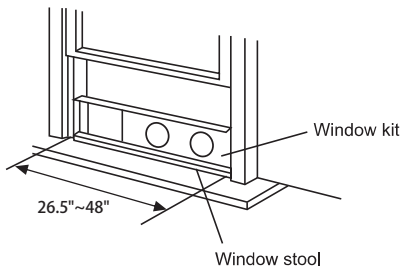

Fig.9
2. Attach the window slider kit to the window stool. Adjust the length of the window slider kit according to the width of window, shorten the adjustable window kit if the width of window is less than 26.5 inches Open the window sash and place the window slider kit on the window stool. Fig.9